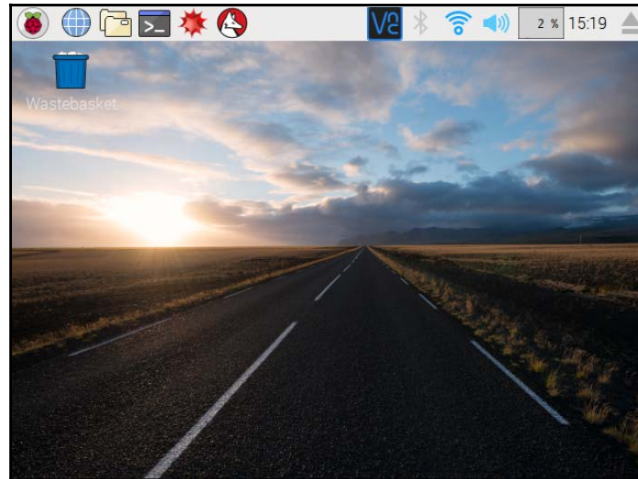

Figure 2.6
10. After the completion of the installation process, the GUI will open up, just like in *Figure 2.6*: